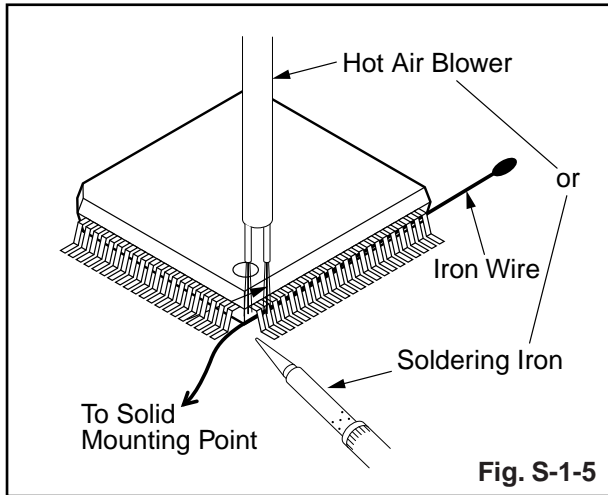

Fig. S-1-5
- (2) Affix the wire to a workbench or solid mounting point, as shown in Fig. S-1-5.
- (3) While heating the pins using a fine tip soldering iron or hot air blower, pull up the wire as the solder melts so as to lift the IC leads from the CBA contact pads as shown in Fig. S-1-5.
- (4) Bottom of the flat pack-IC is fixed with glue to the CBA; when removing entire flat pack-IC, first apply